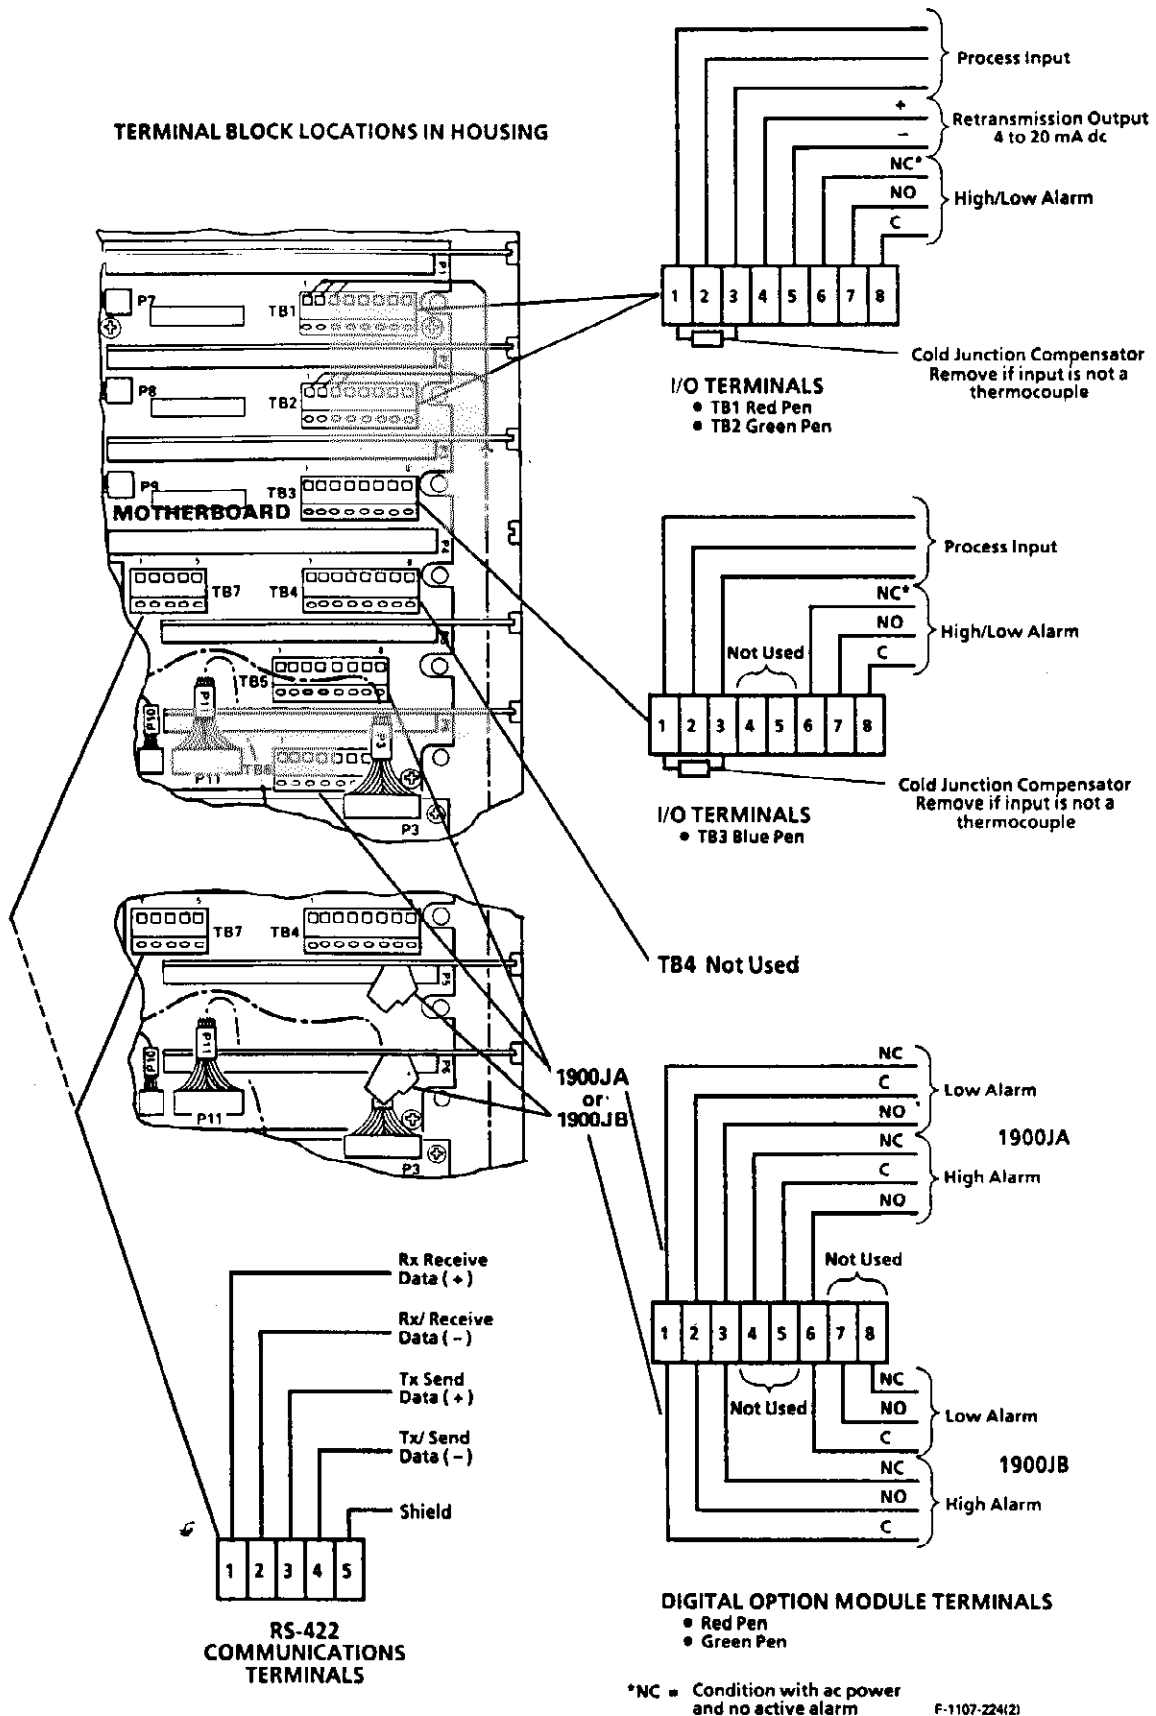
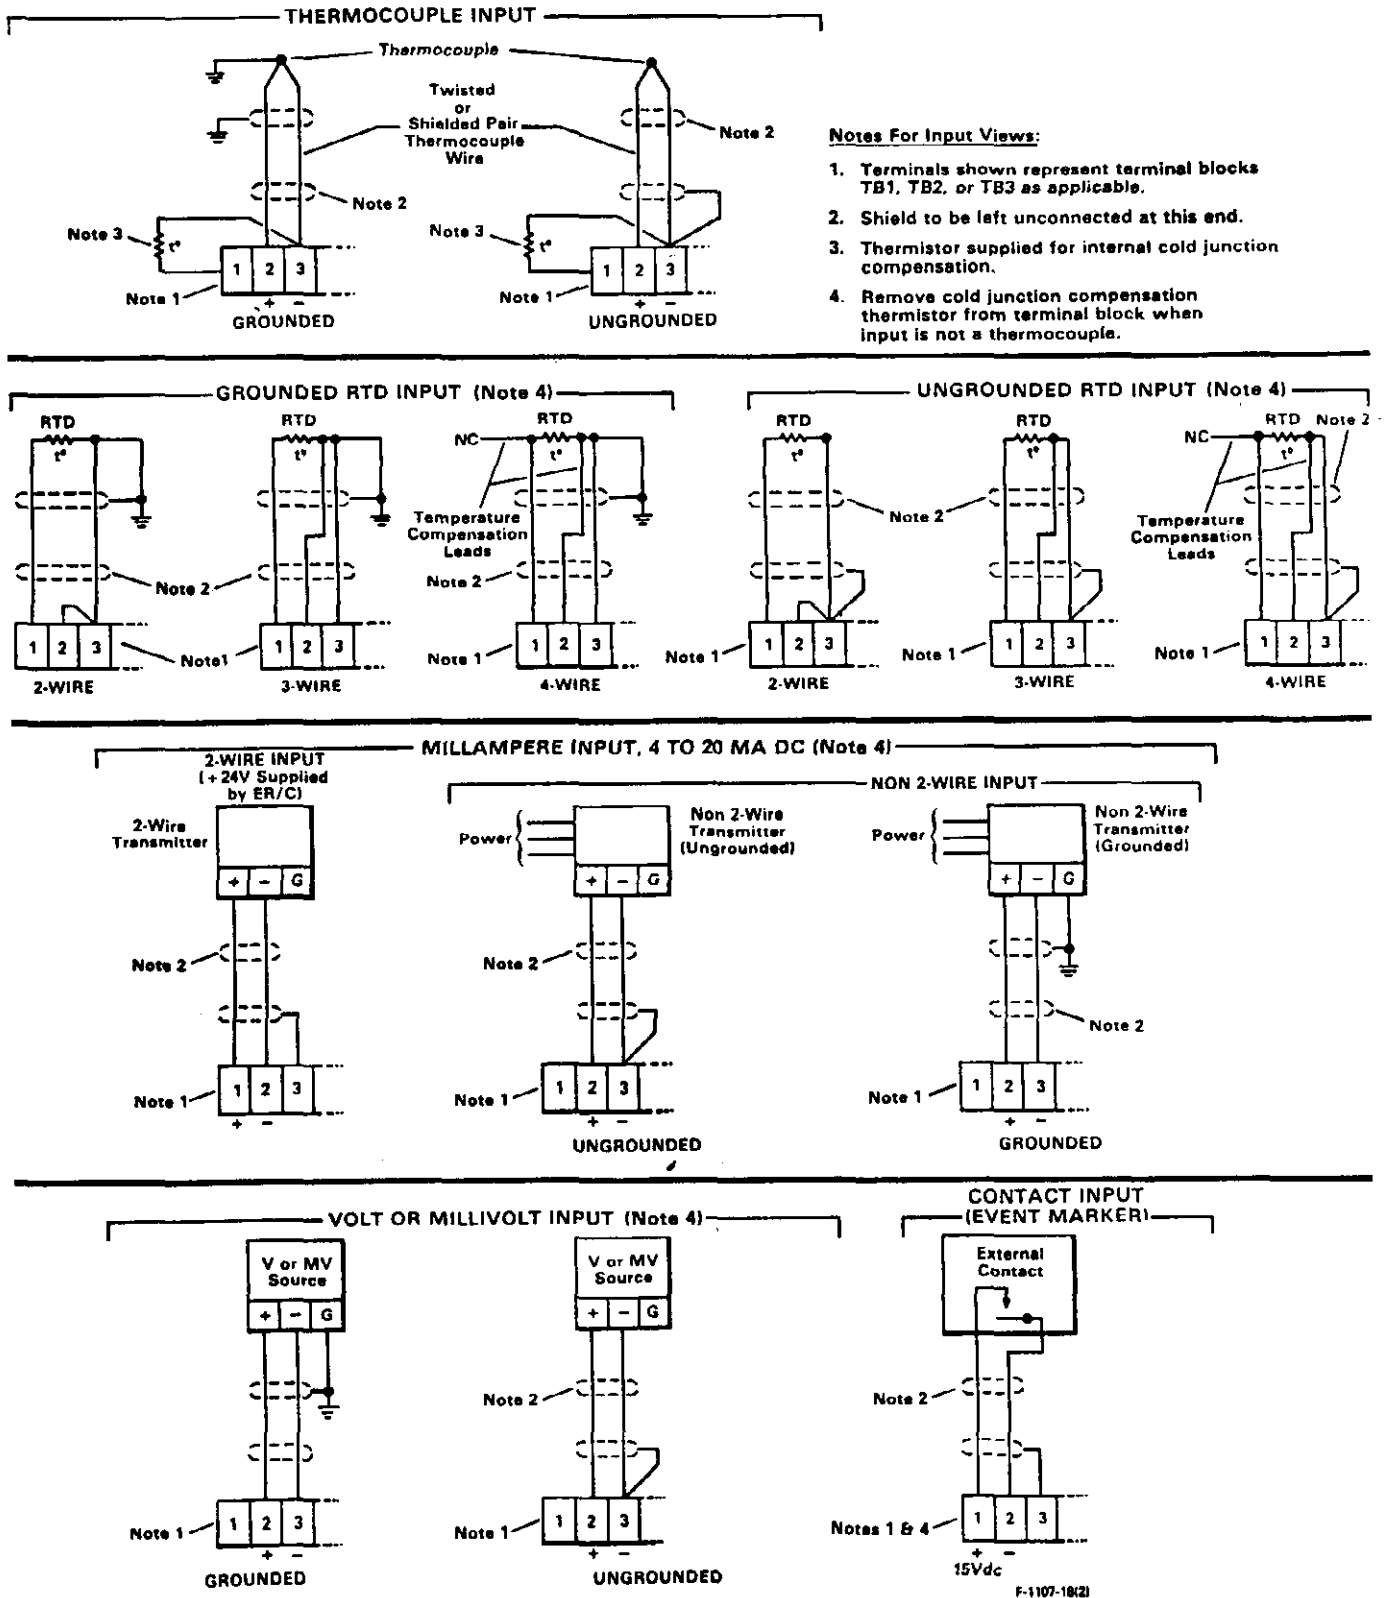

Figure 2-5. Signal Connection Diagram
Figure 2-6. Process Input Connections
3. Refer to Figure 2-5 and connect external logic-ground to terminal 5 of TB1 (common terminal of retransmission output).
4. If a digital option board is installed for the red or green pen, each board must be grounded. Refer to Figure 2-5 and connect external logic-ground to terminal 2 or 5 of TB5 or TB6 to provide option board grounding.
Figure 2-5 shows terminal connections available for inputs, the standard alarm relay, and for optional alarm relays. Figure 2-6 gives connection details for specific input types. The recommended wiring procedure is as follows:
4. Make connections to terminal blocks on I/O motherboard or digital option module as shown on the connection diagrams, Figure 2-5. Use a small, flat-blade screwdriver to loosen appropriate connection screws on I/O motherboard terminals.
Make thermocouple connections as shown in the thermocouple input views of Figure 2-6. The recording controller is shipped ready to accept a thermocouple input to each installed pen. Therefore, the I/O terminal blocks have the required cold junction compensation thermistor connected as shown in Figure 2-5. The thermistor provides the cold junction compensation required at the junction of thermocouple material and terminal material.
1. If an external cold-junction is used (thermocouple junction with non-thermocouple material is located external to the instrument), then the thermistor shown under the thermocouple input in Figure 2-6 must be removed and replaced with an appropriate precision resistor.
2. The thermistor used for internal cold-junction compensation of a thermocouple input, Figure 2-6, is a special type. Replace only with Taylor part number 500P1269.
Make RTD connections as shown in the RTD input views of Figure 2-6. Remove the cold junction compensation thermistor connected between terminals 1 and 3. It is required only for thermocouple inputs.
An RTD input device may be a 2-wire, 3-wire, or 4-wire RTD. All types are shown in both the grounded and the ungrounded RTD views in Figure 2-6. The third and fourth leads on an RTD are wire-drop compensation leads. The third wire on both the 3-wire and the 4-wire types connects the "common" side of the RTD to terminal 2 on the pen terminal block. The fourth wire, on a 4-wire RTD, is not used for recorder applications.
Make current input connections as shown in the milliampere input views of Figure 2-6. Remove the cold junction compensation thermistor connected between terminals 1 and 3. It is required only for thermocouple input.
Make volt or millivolt connections as shown in the volt and millivolt input views in Figure 2-6. Remove the cold junction compensation thermistor connected between terminals 1 and 3. It is required only for thermocouple input. The only difference between a volt and millivolt input is signal amplitude. Grounded and ungrounded versions are shown in Figure 2-6.
The alarm relay on each pen I/O board is connected to both the high and low alarms and gives an alarm for either condition. Alarm high or alarm low is indicated by front panel alarm lights. As shown by Figure 2-5, TB1-TB3, the relay-use terminals are numbered 6 (NC), 7 (NO), and 8 (C). "NO" and "NC" on the diagram indicate relay contact status when the recorder is powered (ac applied) and there is no active alarm.
The alarm relays on each digital option board are connected independently to the high and low alarms. The relay-use terminals, TB5 and TB6 are shown in Figure 2-5. "NO" and "NC" on the diagram indicate relay contact status when the recorder is powered (ac applied) and there is no active alarm.
Make contact input connections as shown in the contact input view in Figure 2-6. Closure of the external dry contact completes the input signal circuit and produces an event record on the chart. Remove the cold junction compensation thermistor connected between terminals 1 and 3. It is required only for thermocouple input.
The independent high and low alarm connections for either the red or green digital option module as shown in Figure 2-5 are used as predetermined count single event states when its associated red or green pen is used for totalization. When the totalizer reaches a predetermined count, the relays go on and stay on until the totalizer is turned off or reset. When the wrap function is on, the relays switch momentarily before going back off.
Make retransmission output connections to terminal block TB1 (red pen) or TB2 (green pen). The hi and low limits are determined by the chart limits. See Figure 2-5 for terminal block locations and for 4 to 20 mA terminal connections. The retransmission output is a 4 to 20 mA dc signal. The maximum allowable load is 750 ohms.
Make connections for RS-422 serial communications at TB7 as shown in Figure 2-5.